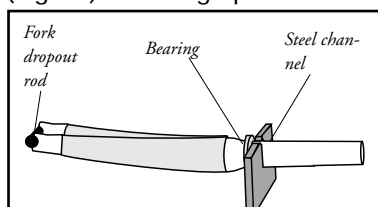

Fig. 30
1. Place the steel channel in a vise. Place the Fork dropout rod in the fork dropouts (Fig. 30) and snug up the attachment bolts.